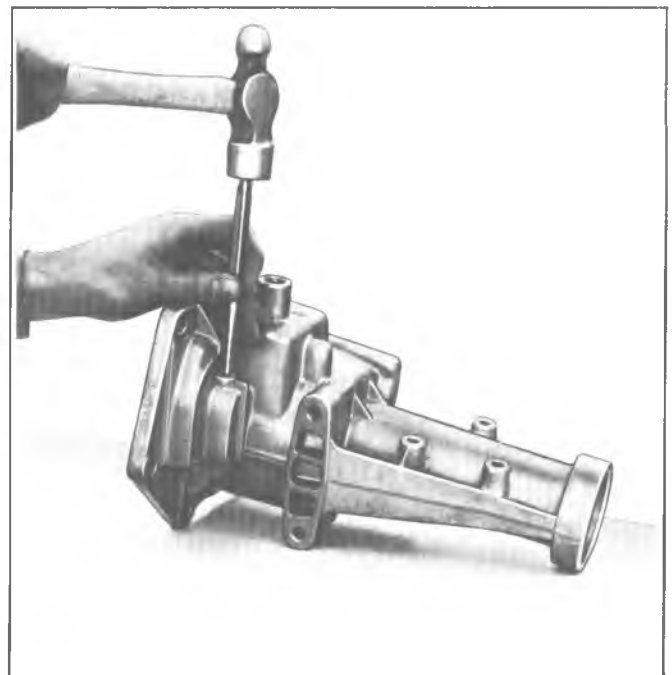

Fig. 7B-17K--Removing Reverse Idler Shaft Roll Pin
1. Place a small punch into hole in extension's reverse idler shaft boss and drive the welch plug and pin into the shaft (Fig. 7B-17K) until the shaft can be pulled from rear extension.